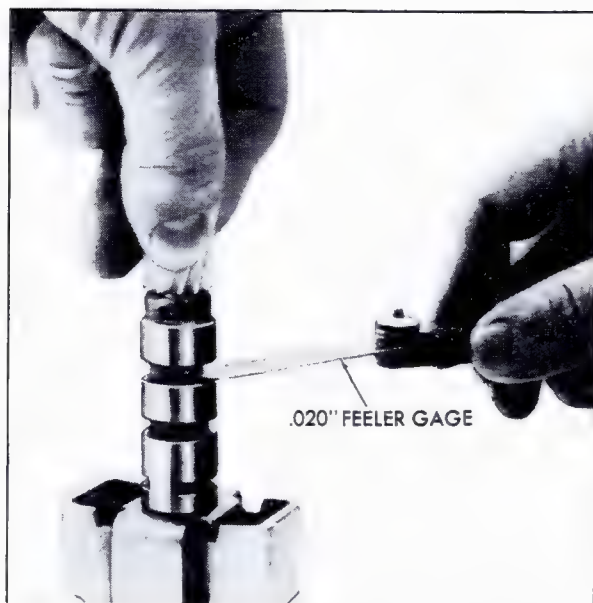

Fig. 7-61 Checking Valve Opening - Weights Extended
10. Check valve opening at entry (.020" minimum) with a feeler gage, holding governor as shown with governor weights extended completely outward, Fig. 7-61.